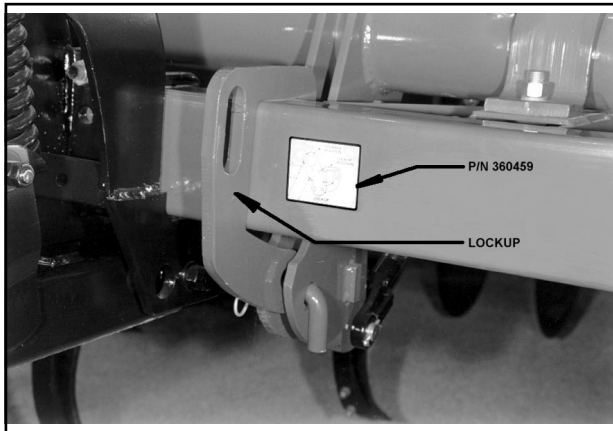

Figure 4-12 Lockup in Lockup Position
- b. Install lockup on rockshaft and secure with L-pin and cotter pin (**See Figure 4-12**).